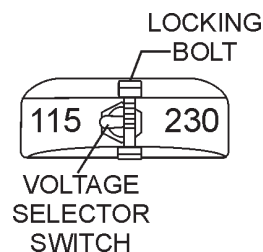

Figure 12. Voltage Selector Switch
4. This unit is shipped from the factory with the **voltage selector switch** (Figure 12) in the 115 VAC position. To change the position of the switch from 115 VAC to 230 VAC, remove the locking bolt and place the switch in the 230 VAC position. Re-install the locking bolt to prevent accidentally flipping the switch.